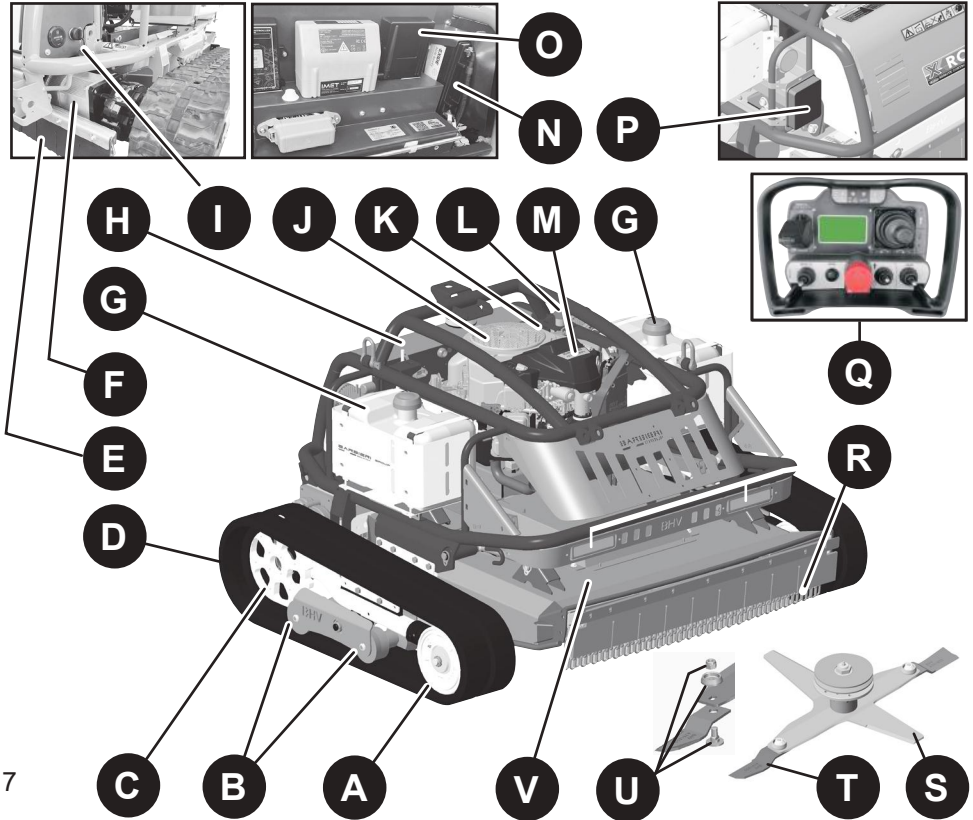

Fig 7
The engine is equipped for a filter for the inlet air. In the case of dry grass and congested areas, the air filter must be cleaned very often (every 2 hours). If dry blades of grass stick to the automatic openings of the engine's power generator (Fig. 7 - J), it is very likely that they are also in the air filter, which must be cleaned. (see Section 7.1.2). A clogging of the air filter can lead to a loss of engine performance. The filter should be cleaned daily under normal conditions.
To switch off the engine, press the red alarm button at any time (Fig. 10 (O)). The engine suddenly stops. Shortly after stopping, remember to release the alarm switch in its normal position. The engine can also be switched off by the alarm button on top of the machine (Fig. 7 (L)), by turning off the star key (Fig. 7 (I)) or anytime the radio connection with the remote control is interrupted.